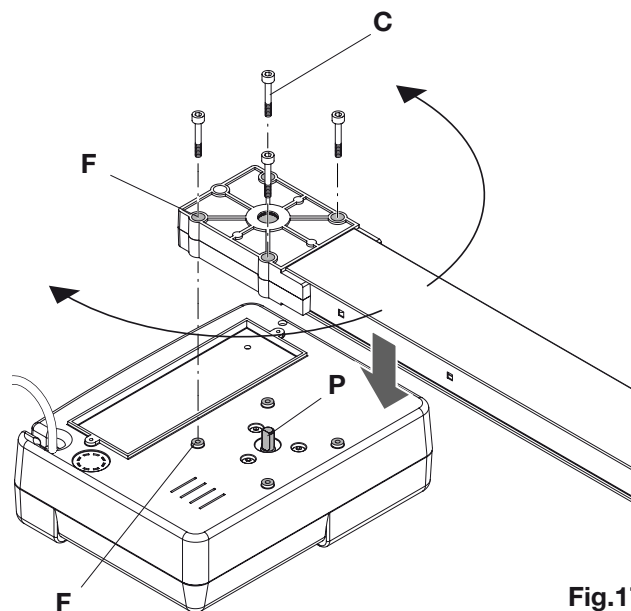

Fig.17
4) Apply the drive guide to the gear motor (figure 17):
- inserted in this way the guide may not be perpendicular to the gear motor unit. Turn the guide until the holes are aligned for the screws (Fig 17 ref F) - with the corresponding sump seats (Fig 17 ref S).